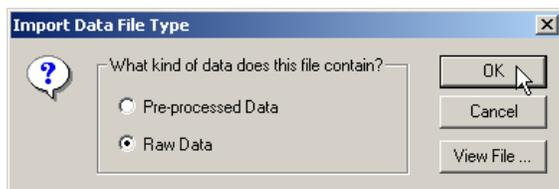

Figure 5 Selecting the data type to be imported
- b. On the drop-down list that appears, select **<Create new Scheme>** (Figure 5).